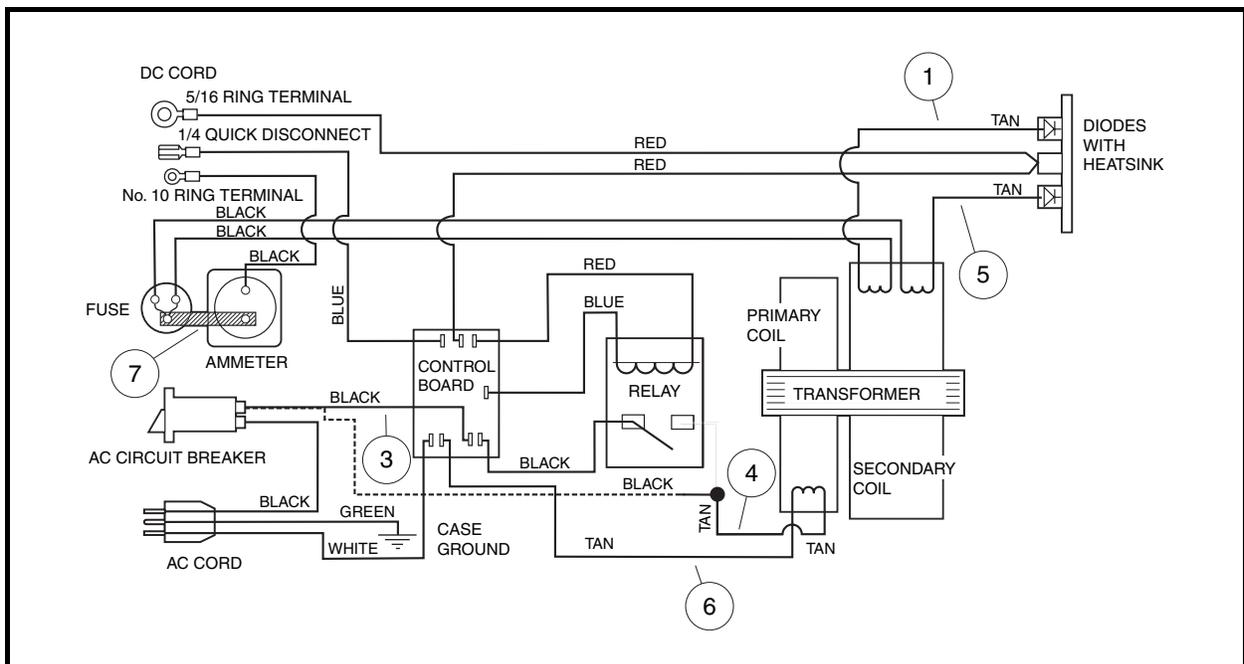

Figure 4-13 Transformer Test Wiring Diagram
- 5.3.1. To bypass the relay, remove the black wire (3) from the AC circuit breaker and disconnect the black wire (4) from the relay. Connect the black wire (4) to the AC circuit breaker (**Figure 4-13, Page 4-15**).
6. If the circuit is not complete, check the wiring of the AC cord, AC cord reel, transformer primary coil wires, and internal AC circuit breaker (**Figure 4-13, Page 4-15**).
4. Disconnect transformer secondary coil wires (1 and 5) from the heatsink (**Figure 4-13, Page 4-15**).
- 5.1. To bypass the relay, remove the black wire (3) from the AC circuit breaker and disconnect the black wire (4) from the relay. Connect the black wire (4) to the AC circuit breaker (**Figure 4-13, Page 4-15**). **See following DANGER.**
10. Connect the AC cord to the wall outlet and monitor the multimeter for the secondary coil voltage. If measured voltage is approximately 85 volts AC or lower for the secondary coil, the transformer is shorted internally and must be replaced (**Figure 4-13, Page 4-15**).
The PowerDrive battery charger transformer has two sets of coils: a primary coil and a secondary coil **(Figure 4-13, Page 4-15).**
3. Disconnect terminals from transformer (tan) primary coil transformer wires (4 and 6) **(Figure 4-13, Page 4-15).**
3. Remove the transformer (tan) secondary coil wire (1) from the upper terminal of the heatsink (**Figure 4-13, Page 4-15**).
4. Remove the other transformer (tan) secondary coil wire (5) from the bottom terminal of the heatsink and place the continuity test clip on the ammeter buss bar (7) (**Figure 4-13, Page 4-15**). Test for continuity between the buss bar and each of the secondary coil wires (tan). The tester should indicate continuity between the buss bar and both of the secondary coil wires. If tester does not indicate continuity on both secondary coil wires, replace transformer. Ensure that the fuse is intact and not blown.
3. Remove black wires from contact terminals of the relay (**Figure 4-13, Page 4-15**). Place continuity test probes on contact terminals of the relay. The tester should indicate no continuity. If tester indicates continuity, the relay contacts have failed closed and the relay must be replaced.